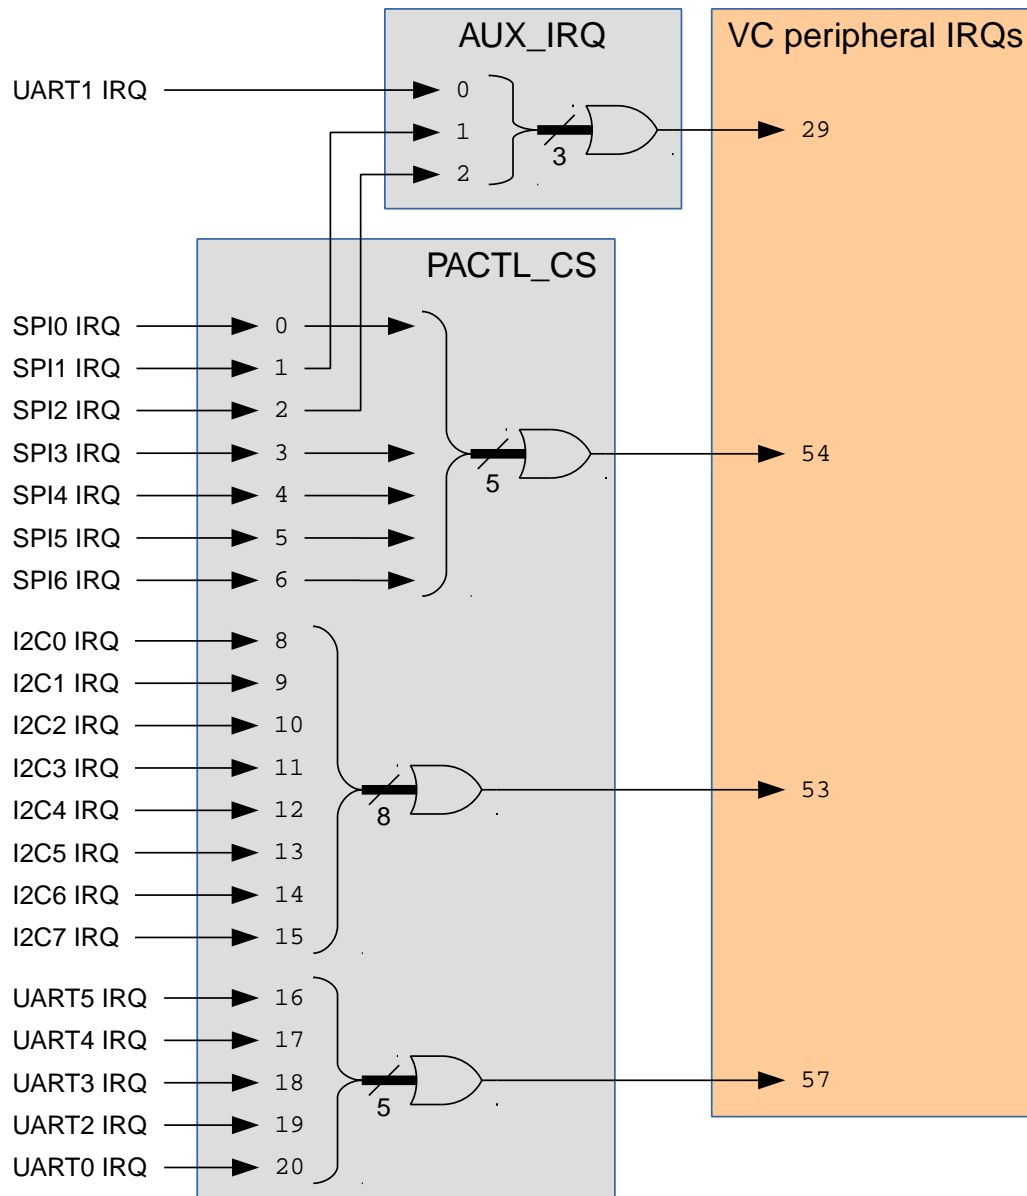

Figure 6. Peripheral IRQ OR-ing
interrupts (highlighted in **bold** in Table 100) are the OR-ed version of multiple peripheral interrupts. The per-peripheral interrupt statuses for VC peripheral IRQs 29, 53, 54 & 57 can in turn be read from the AUX\_IRQ (documented in Chapter 2) and PACTL\_CS (at address `0x7E20 4E00`) registers. Figure 6 shows how this is logically connected, with the vertically-aligned numbers inside the grey boxes indicating bit-positions within the registers.
5. Find that FIQ3\_PENDING1[25] (i.e. VC peripheral IRQ 57) is set, so read PACTL\_CS[20:16] (see Figure 6) to see which UART triggered it